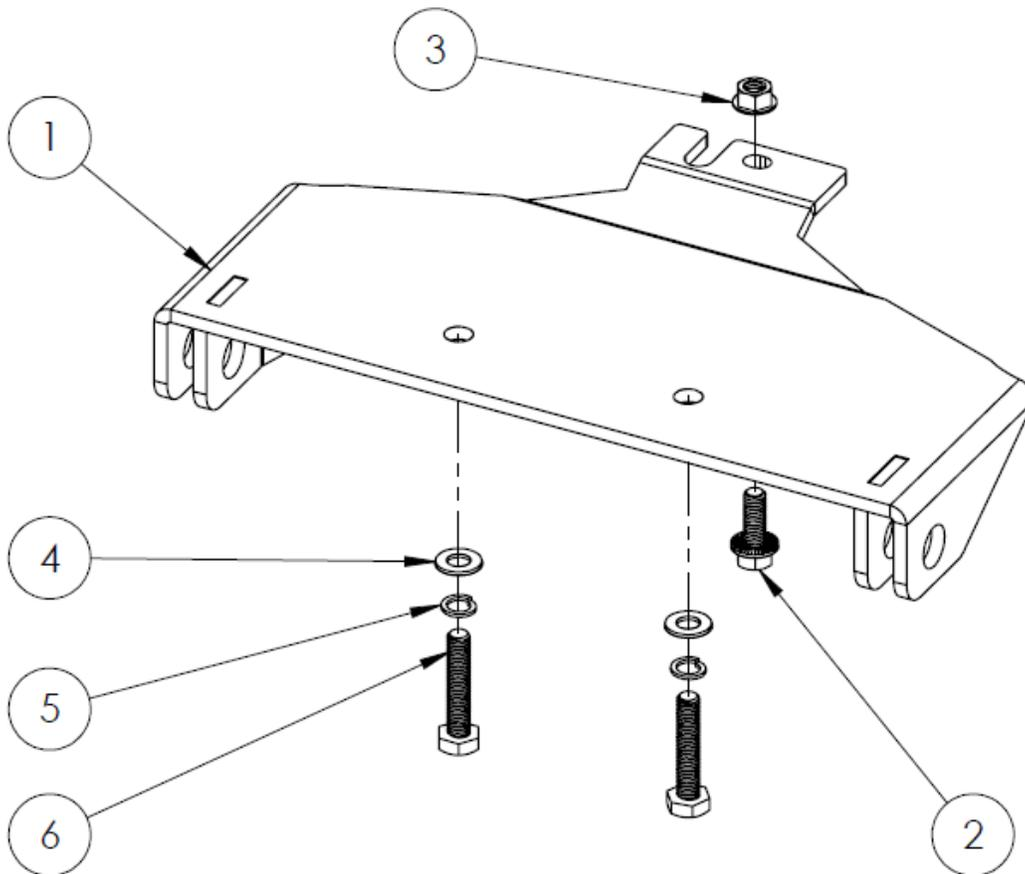
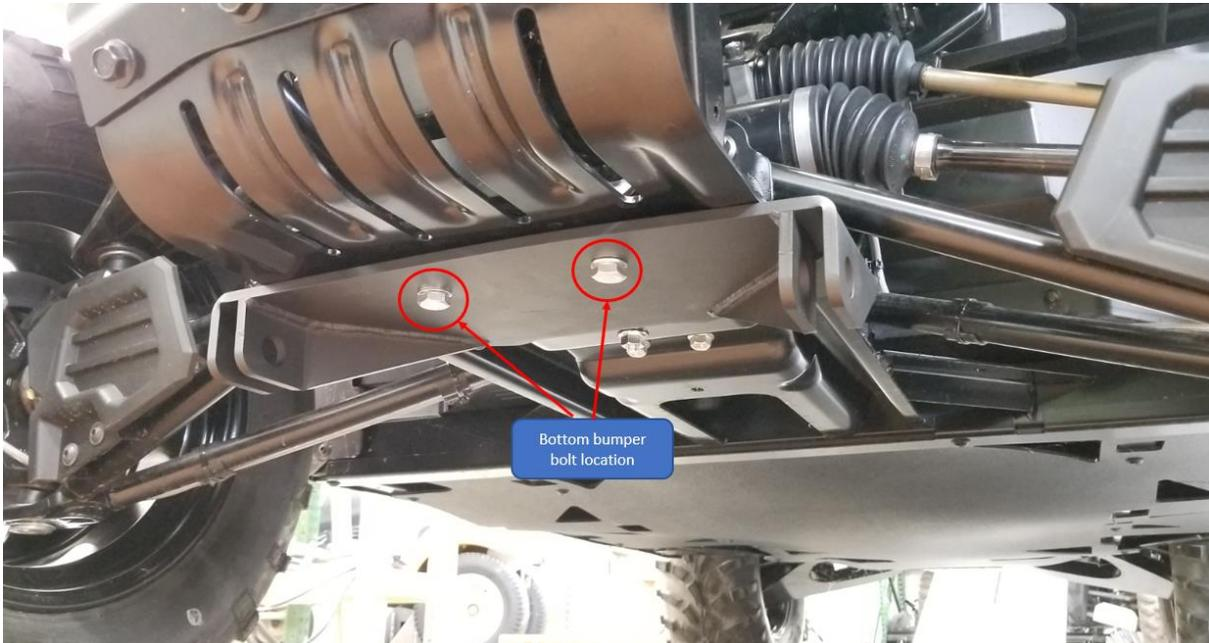

Figure 1
Figure 2
1. Remove the two M10 bolts on the bottom of the bumper. **Figure 2** shows the plow mount installed, the red circles mark the location of the original bumper bolts.
2. Lift the MA11764 Mounting Plate into place as shown in **Figure 2**. Slide the back flange into slotted hole by the differential.
3. Secure the front of the mount using the provided M10 Washers and M10-1.5 x 50mm Hex Bolts as shown in **Figure 1** and **Figure 2**. Do not tighten fully at this time.